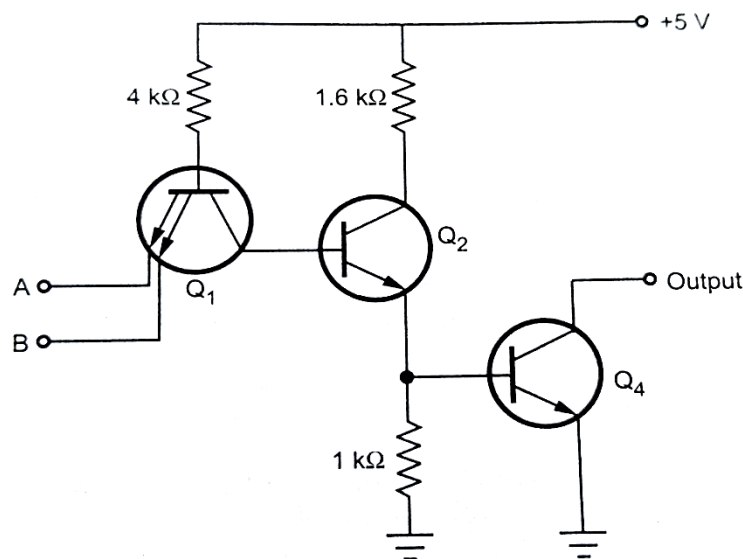

Figure 1.15: Open collector 2-input TTL NAND gate
- Figure 1.15 shows a 2-input NAND gate with an open collector output eliminates the pull-up transistor Q3, D1 and R4.